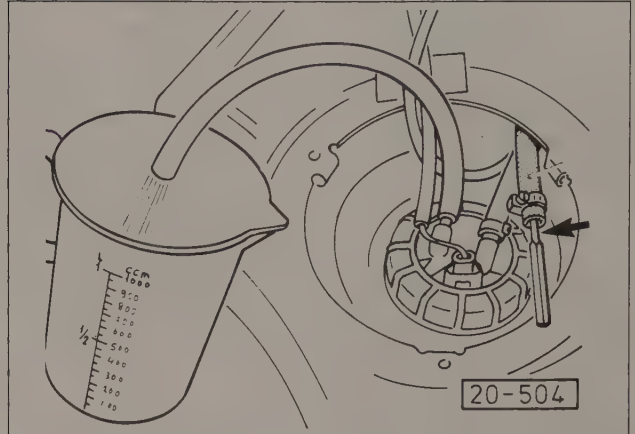

Fig. 4-4. Transfer pump fuel delivery rate being measured. Disconnect and plug output hose (arrow) and temporarily connect test hose.
7. Temporarily connect a hose leading to a measuring container, as shown in Fig. 4-4.